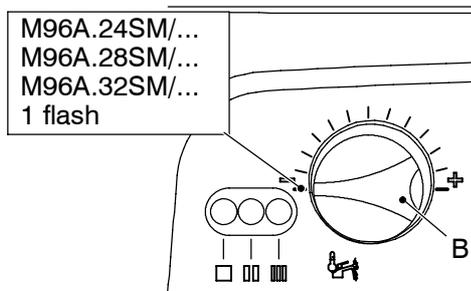

Fig. 11
At this step it is possible to visualize the current setting by keeping the reset button D pressed for more than 5 seconds. The lamps F will flash a number of times corresponding to the setting Fig. 11 (once for M96A.24SM/..., M96A.28SM/... and M96A.32SM/...).
- 12 To change the setting turn the knob B on a position corresponding to the boiler model (Fig. 11). By turning the knob B, the lock-out signal lamp E blinks quickly (2 per seconds) indicating that the setting has changed and must be memorised.